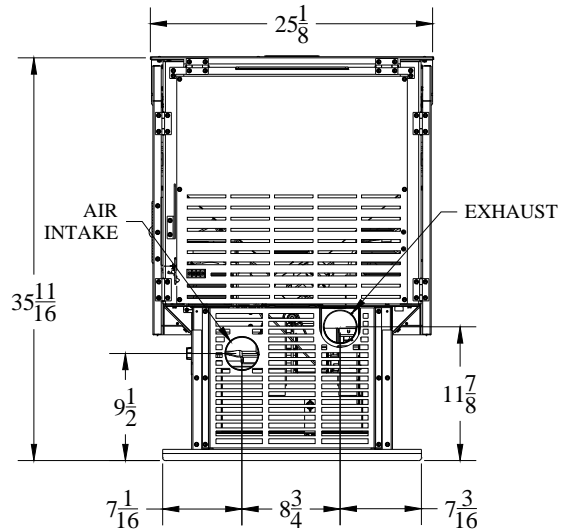
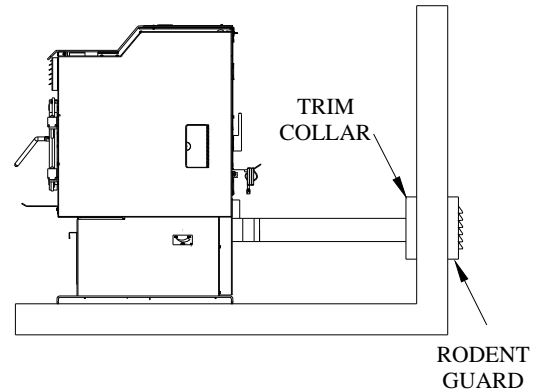

Figure 4
Figure 5
For a mobile home installation the stove must be connected to an outside source of combustion air. A 3" inside diameter metallic pipe, either flexible or rigid, may be attached to the inlet at the stove's rear (refer to figures 4, 5 & 6). A rodent guard (minimum ¼" wire mesh) must be used at the terminus (refer to figure 5). All connections must be secured and airtight by either using the appropriately sized hose clamp and/or UL-181-AP foil tape.
- A hole in the wall behind the stove.(Figure 5)
2. Determine position of hole in wall; directly behind stove exhaust vent (refer to figure 4).